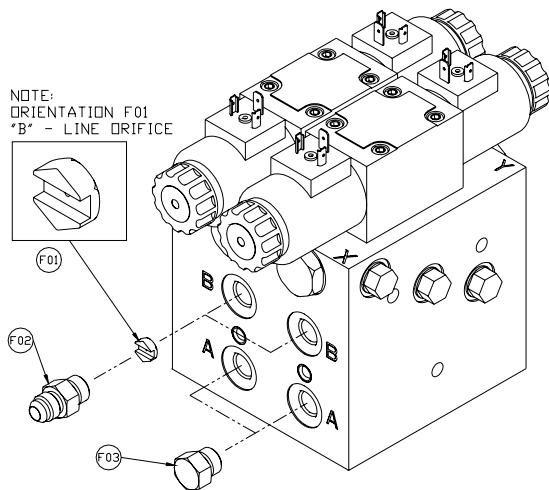

Figure 18 – Single Acting Valve Block
- 1) Install the orifices (F01) into the "B" ports with the notch facing outward as shown in Figure 18.